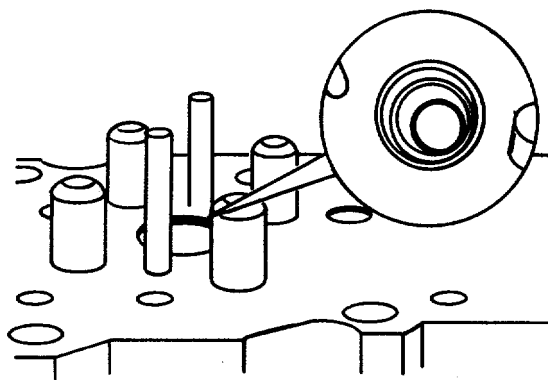

FIGURE 4-15. Injector Bore.
- (22) Check the injector bore (FIG. 4-15).